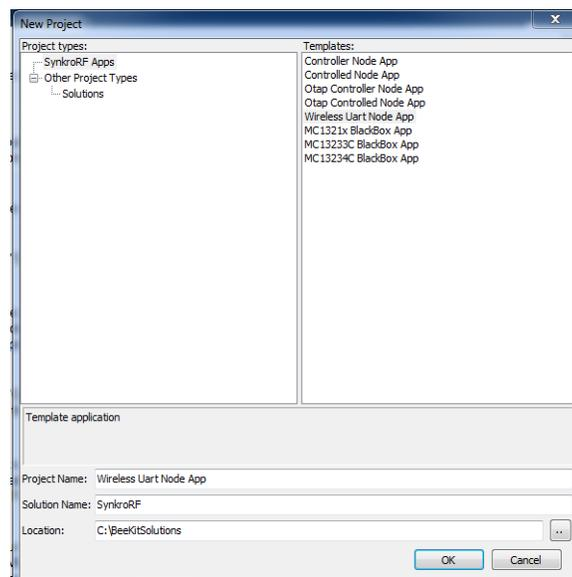

Figure 4-1. BeeKit Wireless UART App Template
2. Select the SynkroRF Apps from the left side of the window, and Wireless UART app template from the right side of the window, as shown in Figure 4-1